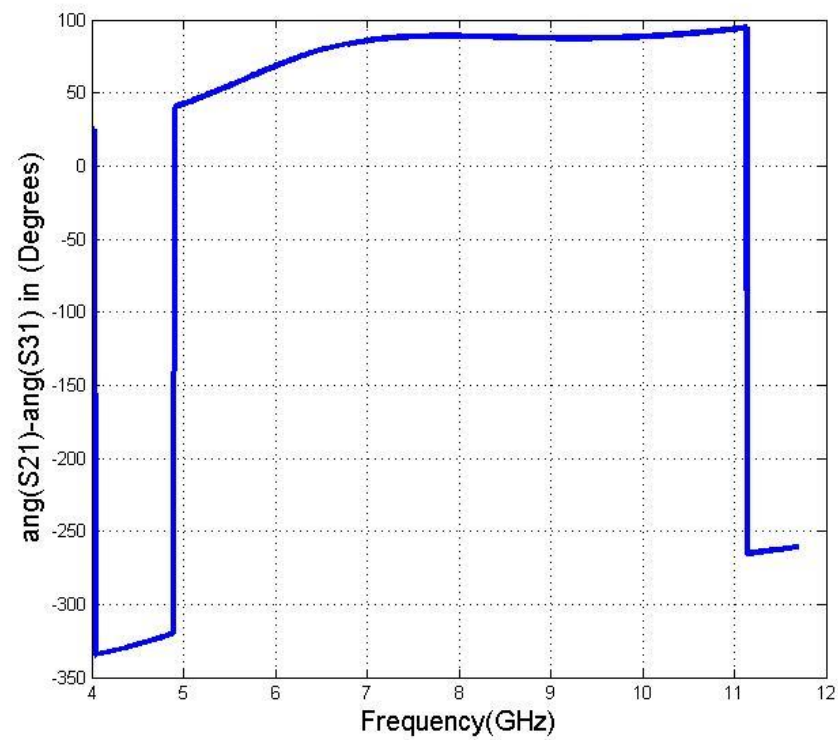

Fig.3. Difference between plots of $\angle S_{21} - \angle S_{31}$
- Fig.3 shows the difference between the angles of S_{21} and S_{31} where there is a 90° phase shift between the ports 2 and 3 at the resonant frequency 7.8 GHz.